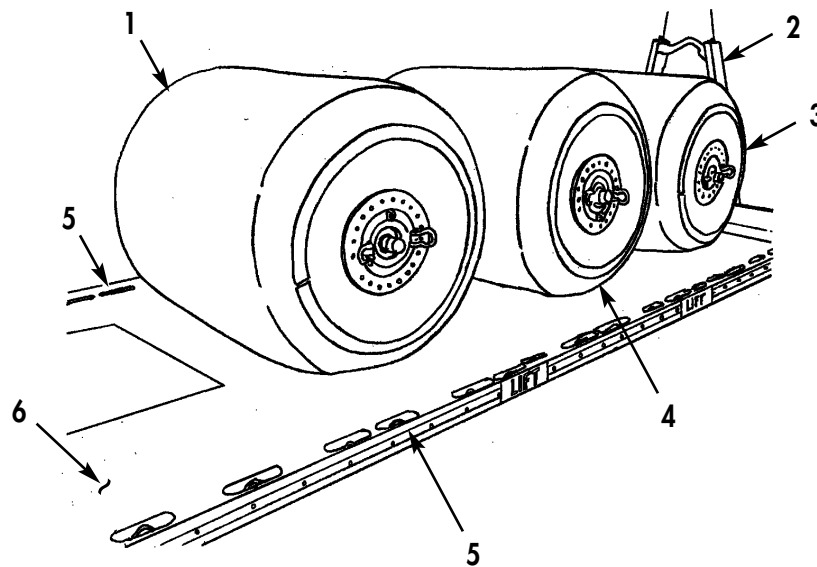

Figure 13. Drums Positioned on CROP.
- c. Check platform surface (Figure 13, Item 6) of PLS Flatrack or CROP for debris or sharp edges that may damage drums. Notify unit maintenance to remove sharp edges as necessary.
- e. Position front drum (Figure 13, Item 3) next to CROP A-frame (Figure 13, Item 2) approximately 12 in. (30 cm) from either side edge (Figure 13, Item 5) of CROP platform (Figure 13, Item 6). If empty, fill drum (Figure 13, Item 3). Refer to Filling Drums in this work package.
- f. Position center drum (Figure 13, Item 4) directly behind first drum (Figure 13, Item 3) approximately 12 in. (30 cm) from either side edge (Figure 13, Item 5) of CROP platform (Figure 13, Item 6). If empty, fill drum (Figure 13, Item 4).
- g. Position rear drum (Figure 13, Item 1) directly behind center drum (Figure 13, Item 4) approximately 12 in. (30 cm) from either side edge (Figure 13, Item 5) of CROP platform (Figure 13, Item 6). If empty, fill drum (Figure 13, Item 1).